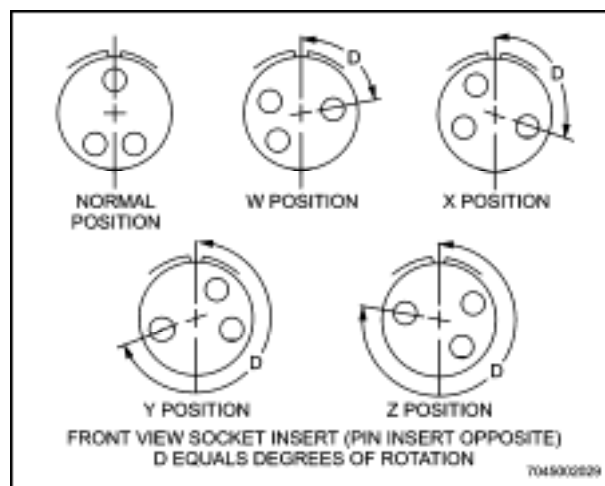

Figure 10-2 Alternative Positions of Connector Inserts
- g. Last letter indicates alternative insert position. Insert position letters W, X, Y, or Z indicate that the connector insert has been rotated with respect to the shell a specified number of degrees from the normal position. Alternative positions are specified to prevent mismating when connectors of identical size and contact arrangement are installed adjacent to each other. These alternative positions are shown on military standard drawings. If no letter appears, the insert is in the normal position. On connectors with multiple keyways, the degree of rotation is measured from the widest keyway. See Figure 10-2 for typical alternative position arrangements.